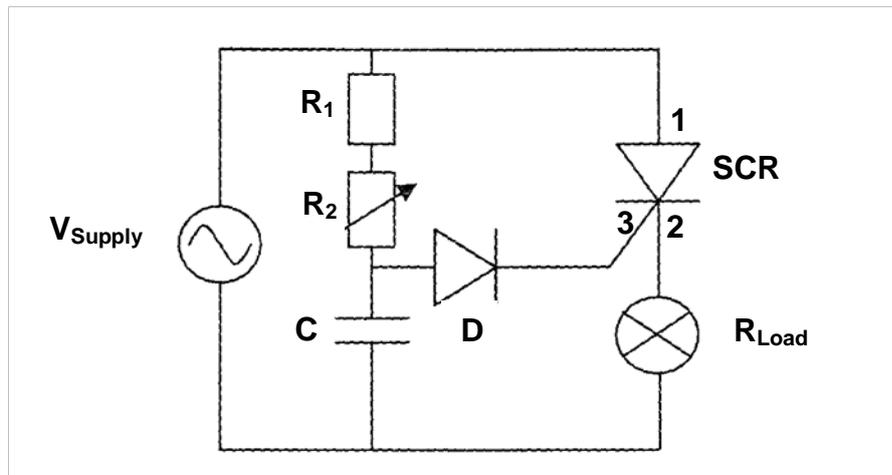

FIGURE 6.2: LAMP-DIMMING CIRCUIT
6.3 The diagram in FIGURE 6.2 shows a lamp-dimming circuit using an SCR.